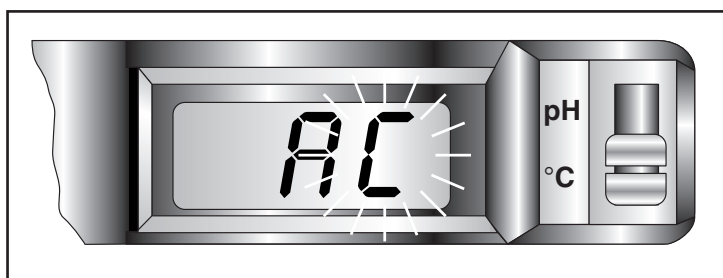

Figure 5-3. Temperature Code - Second Character Blinking
- 6. The second character should now be blinking. Refer to Figure 5-3. If it is not, press the "SET" button until it does.